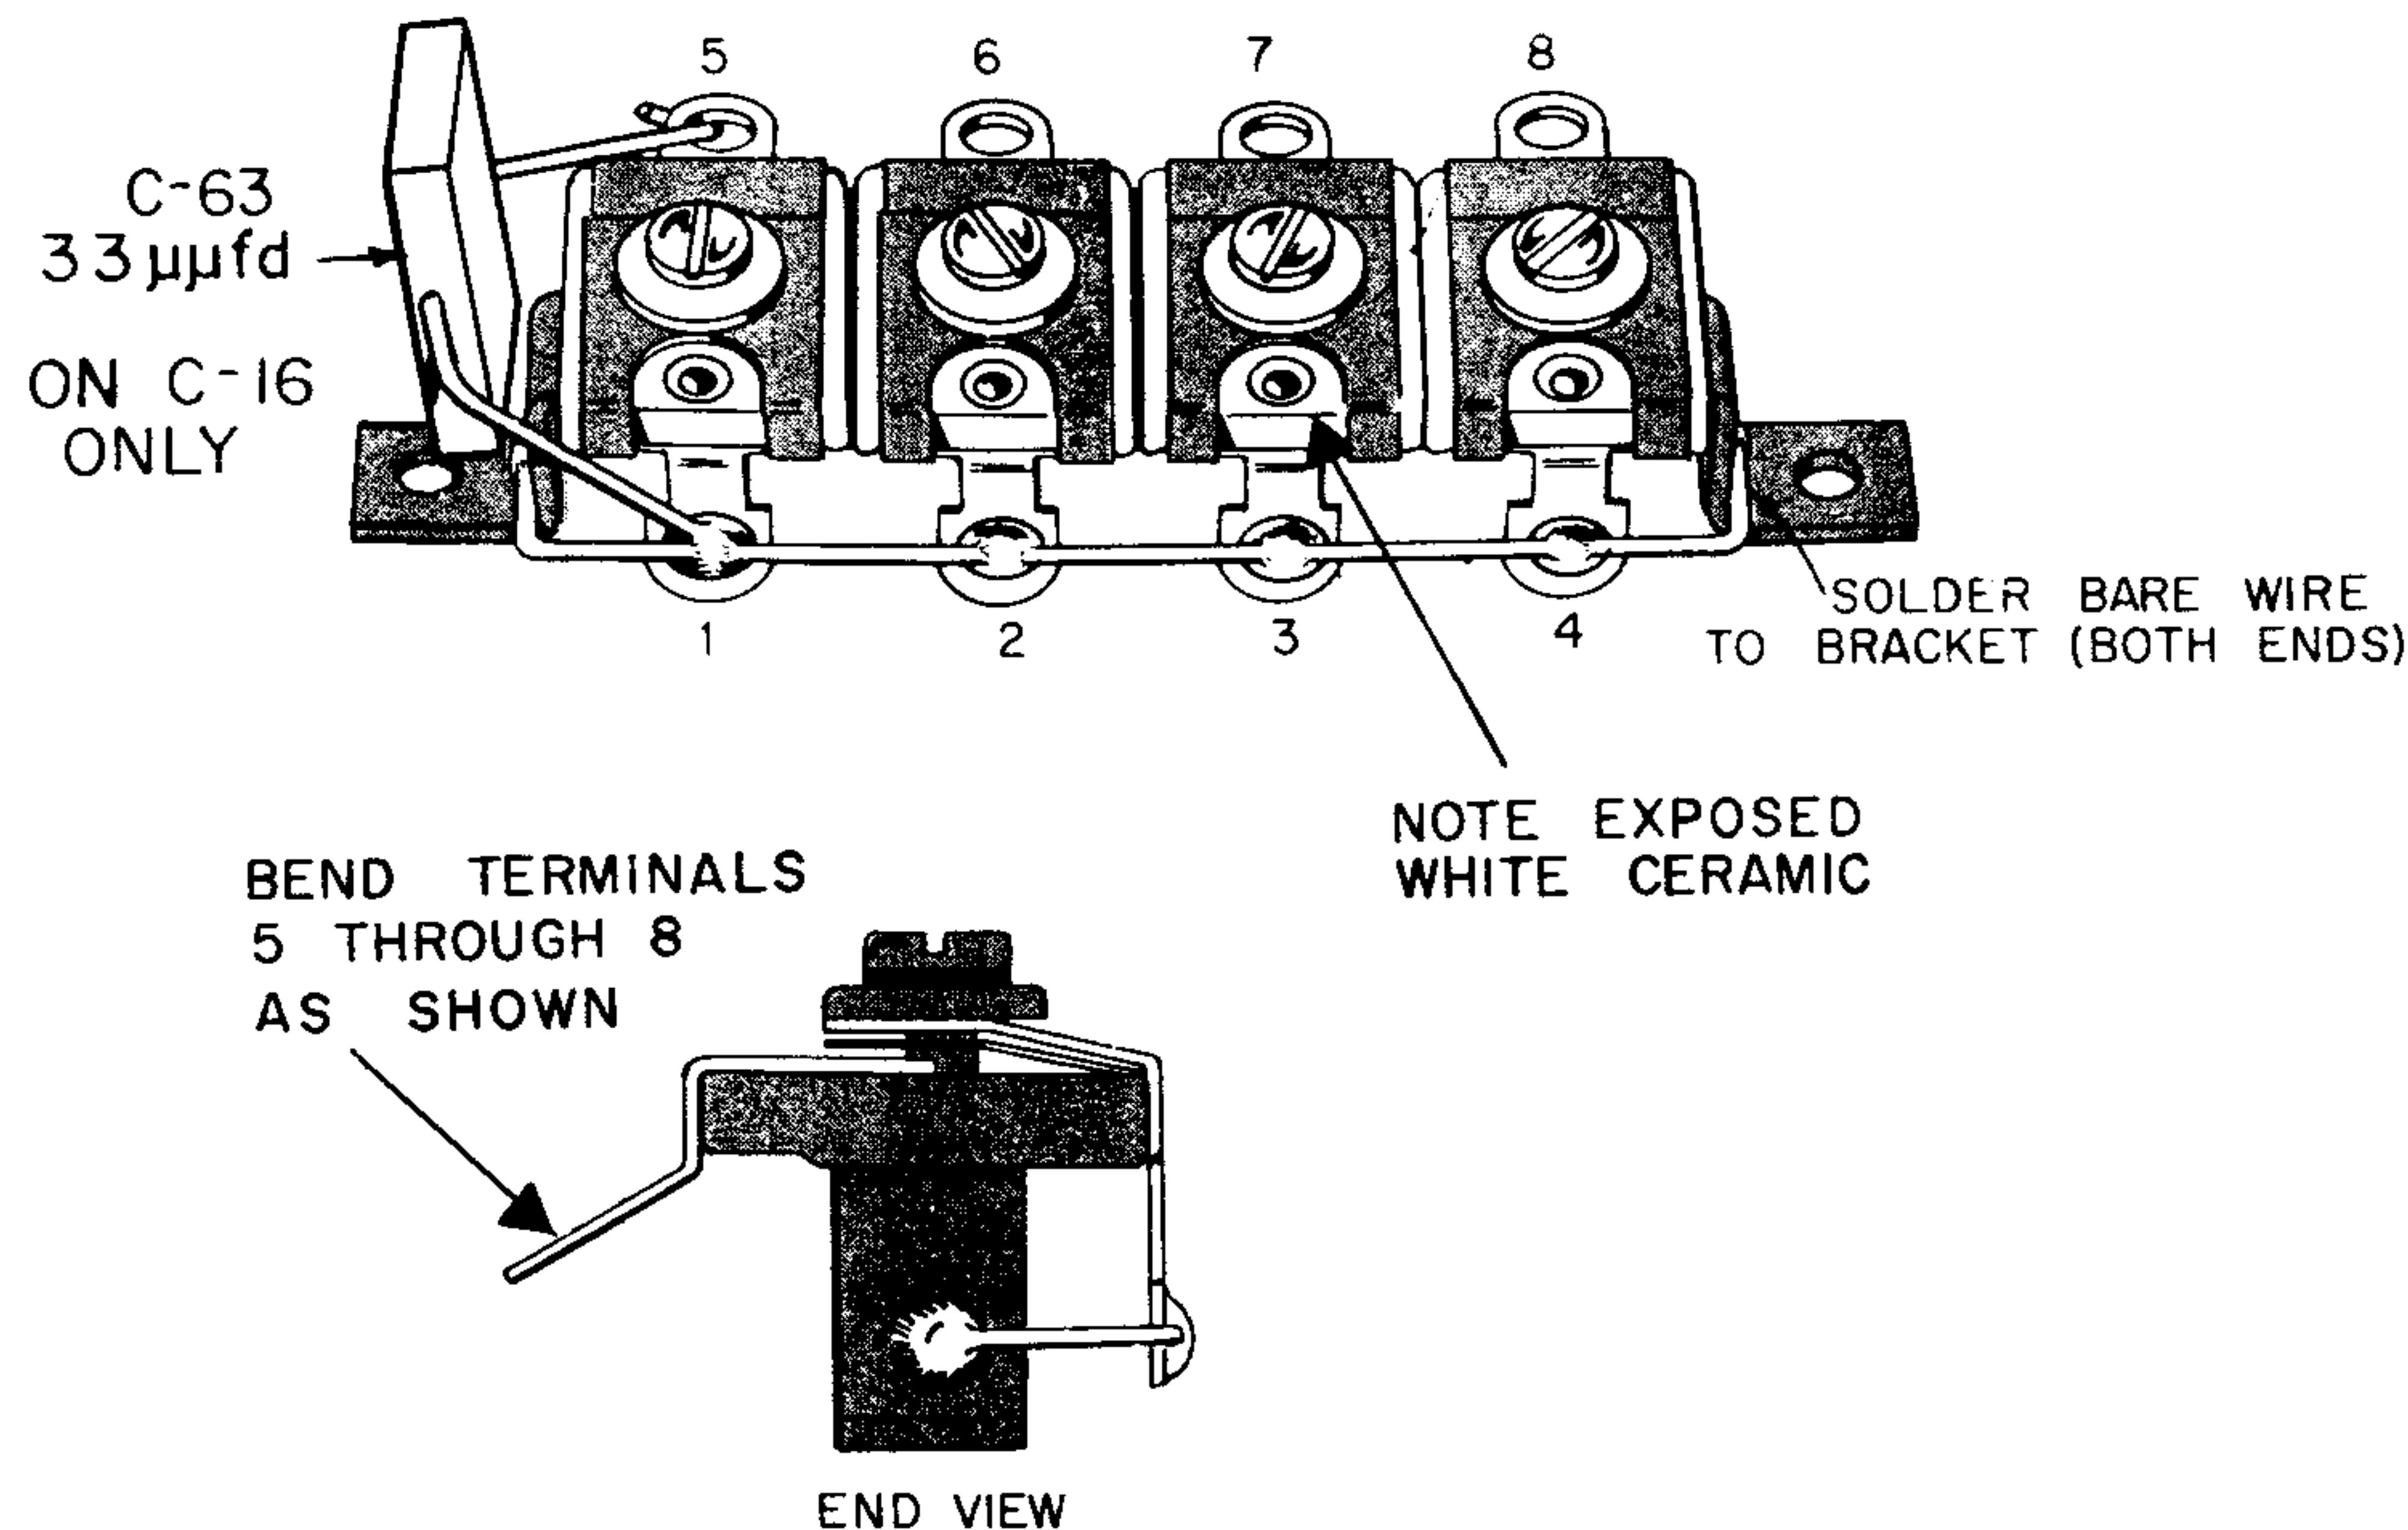

FIGURE 14. PREPARING THE TRIMMER STRIPS
SEE FIGURE 14.
Two, identical trimmer strips are supplied. Each consists of four 3-30 $\mu\mu\text{fd}$ trimmers mounted on a bracket. Notice that terminals 1, 2, 3 and 4 on one side of each trimmer are just below the exposed white ceramic, as shown in Figure 14. **These terminals must be properly identified and wired or the receiver will not work.**
- ☐ Position one of the trimmers exactly as shown in Figure 14. This trimmer will be used as C-16.
- ☐ Position the other trimmer strip, C-12, exactly as shown in Figure 14.